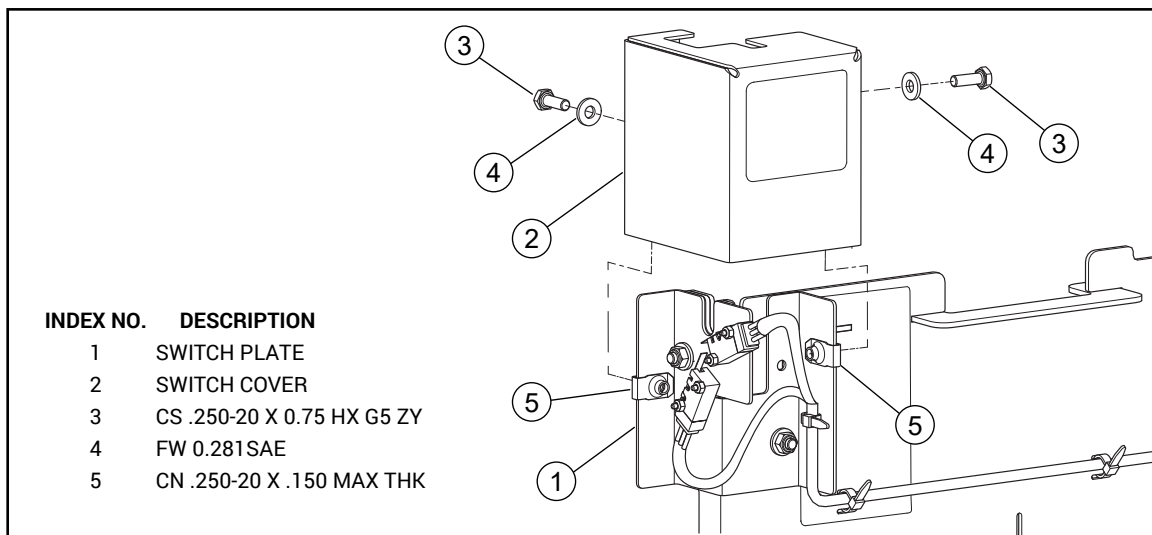

FIG. 6
6. Slide the switch cover into place and secure with the hardware provided. Fig. 6